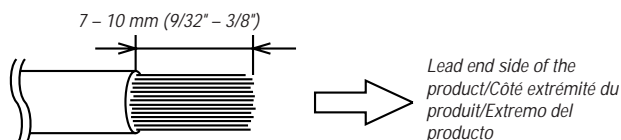

Fig. 9
2. Remove the insulation from the ends of the wire leads by about 7 – 10mm (9/32" – 3/8"). (Fig. 9)
2. Retirer l'isolation des bouts des fils de connexion de 7 – 10mm (9/32" – 3/8"). (Fig. 9)
2. Quite aproximadamente 7 – 10mm de aislación de los extremos de los alambres. (Fig. 9)